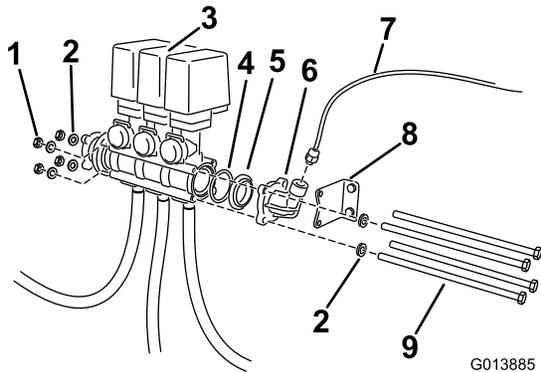

Figure 4
- Loosen the long bolts and fasteners securing the valve assembly (Figure 4). Remove and retain all fasteners. Move the valve assembly to the right.
- Remove elbow adapter and gasket (Figure 4). Locate the O-ring seated in the existing valve body. Retain all parts. Move the bracket away from the existing valve assembly.